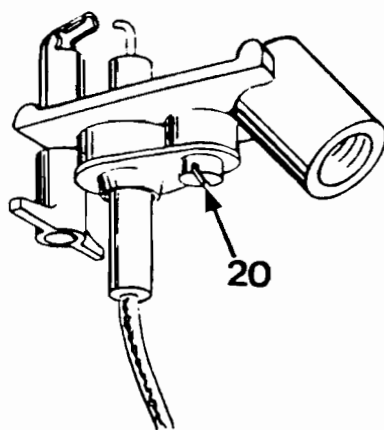

FIG. 5
Release screw securing electrode at (20). Fig. 5. and pull electrode lead through rubber grommet to clear tray assembly.